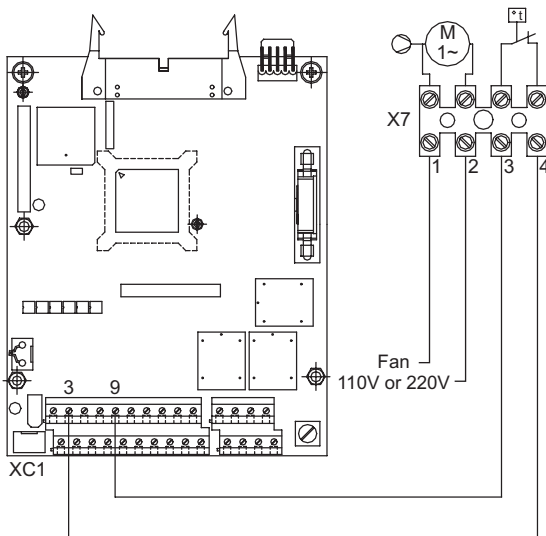

Figure 7: Example of Thermal Protection
- Step 3** Supply the fan of the braking module with the suitable supply voltage (110 V or 220 V) through terminals 1 and 2 of connector X7 (see figure 7). The fan has a requires a current of about 0.14A;
- Step 8** The terminals 3 and 4 of the terminal block X7 are the NC-contact of a thermostat that must be installed for the thermal protection of the braking module. This protection must be installed external to the braking module (see Figure 7); in this example, the relay is connected to DI3 (terminal 3 and 9 of connector XC1 in the CC9 board) and the parameter P265 is programmed as Without External Error (P265=4).